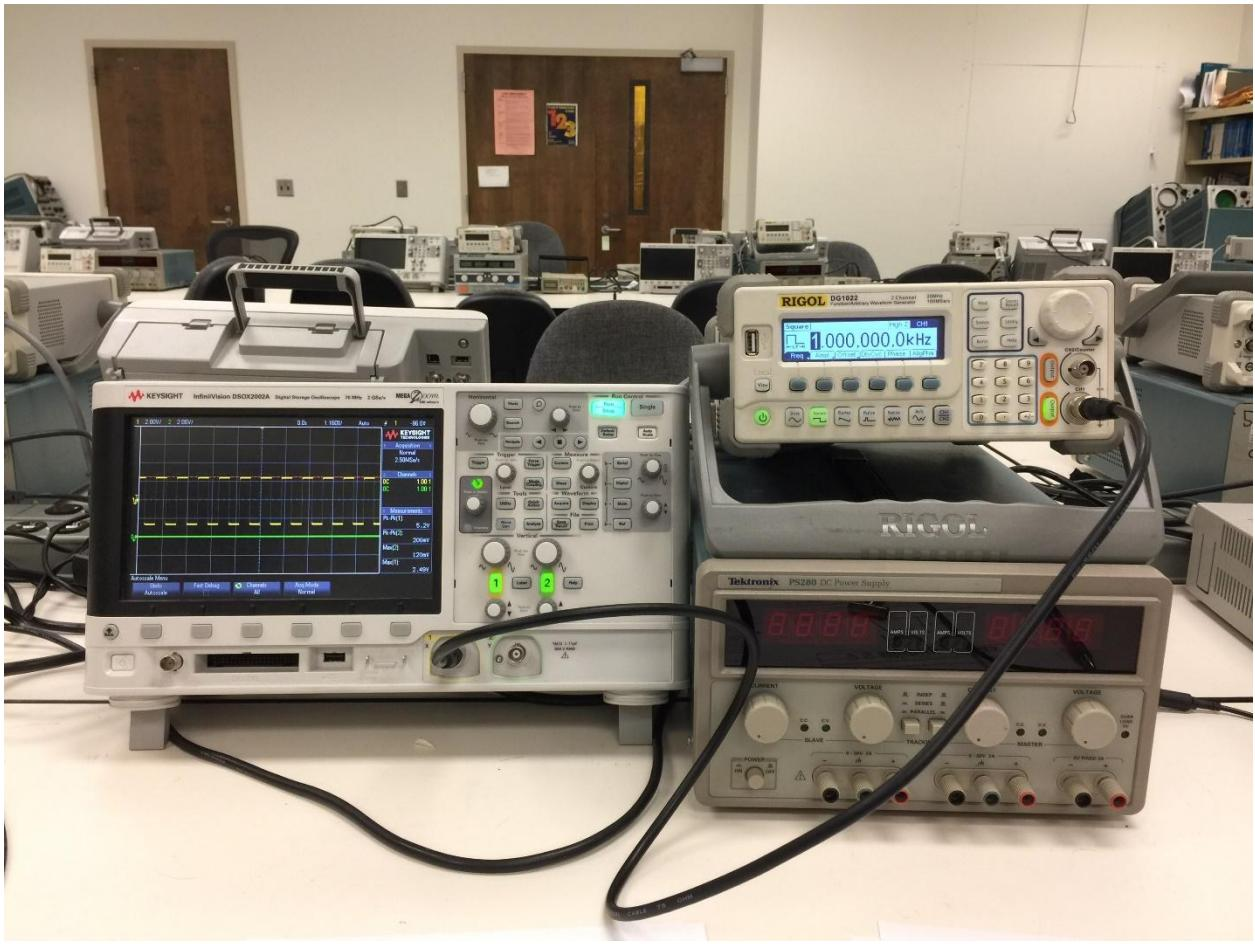

FIGURE 2-7 Connecting the Function Generator to the Oscilloscope
3. Set the frequency of the function generator to square wave output at 1 kHz with amplitude of around 1V (Figure 2-7).